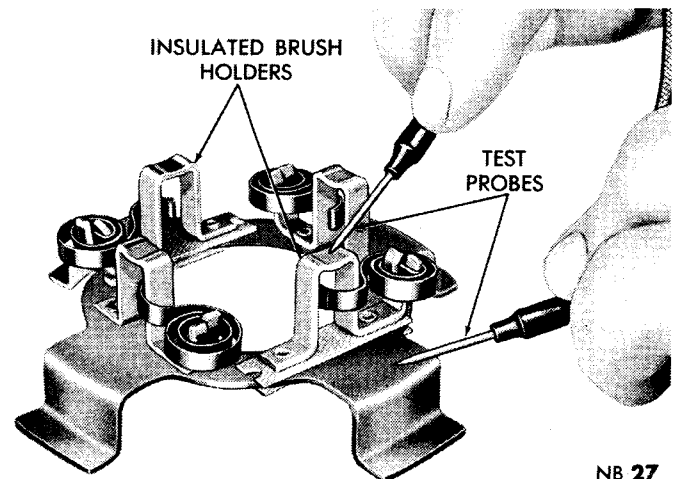

Fig. 12—Testing Insulated Brush Holder For Ground
(7) Touch each of the brush holders with one test probe, while holding other test probe against brush ring. Two brush holders that are 180 degrees apart should cause test lamp to light as they are intentionally grounded. The other two brush holders (Fig. 12)